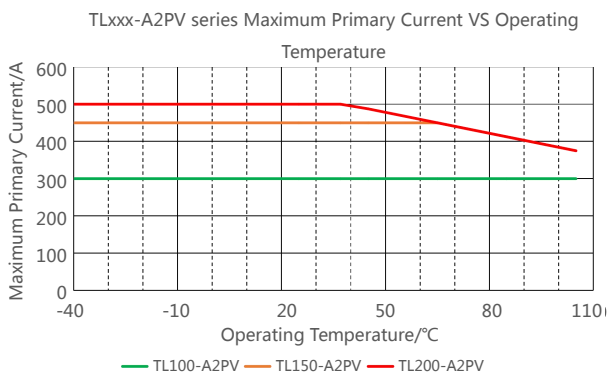

FIG.3
4. FIG. 3: With the increase of operating temperature, the maximum operating current of TLxxx-A2PV series which can maintain stable linear output gradually decreases.